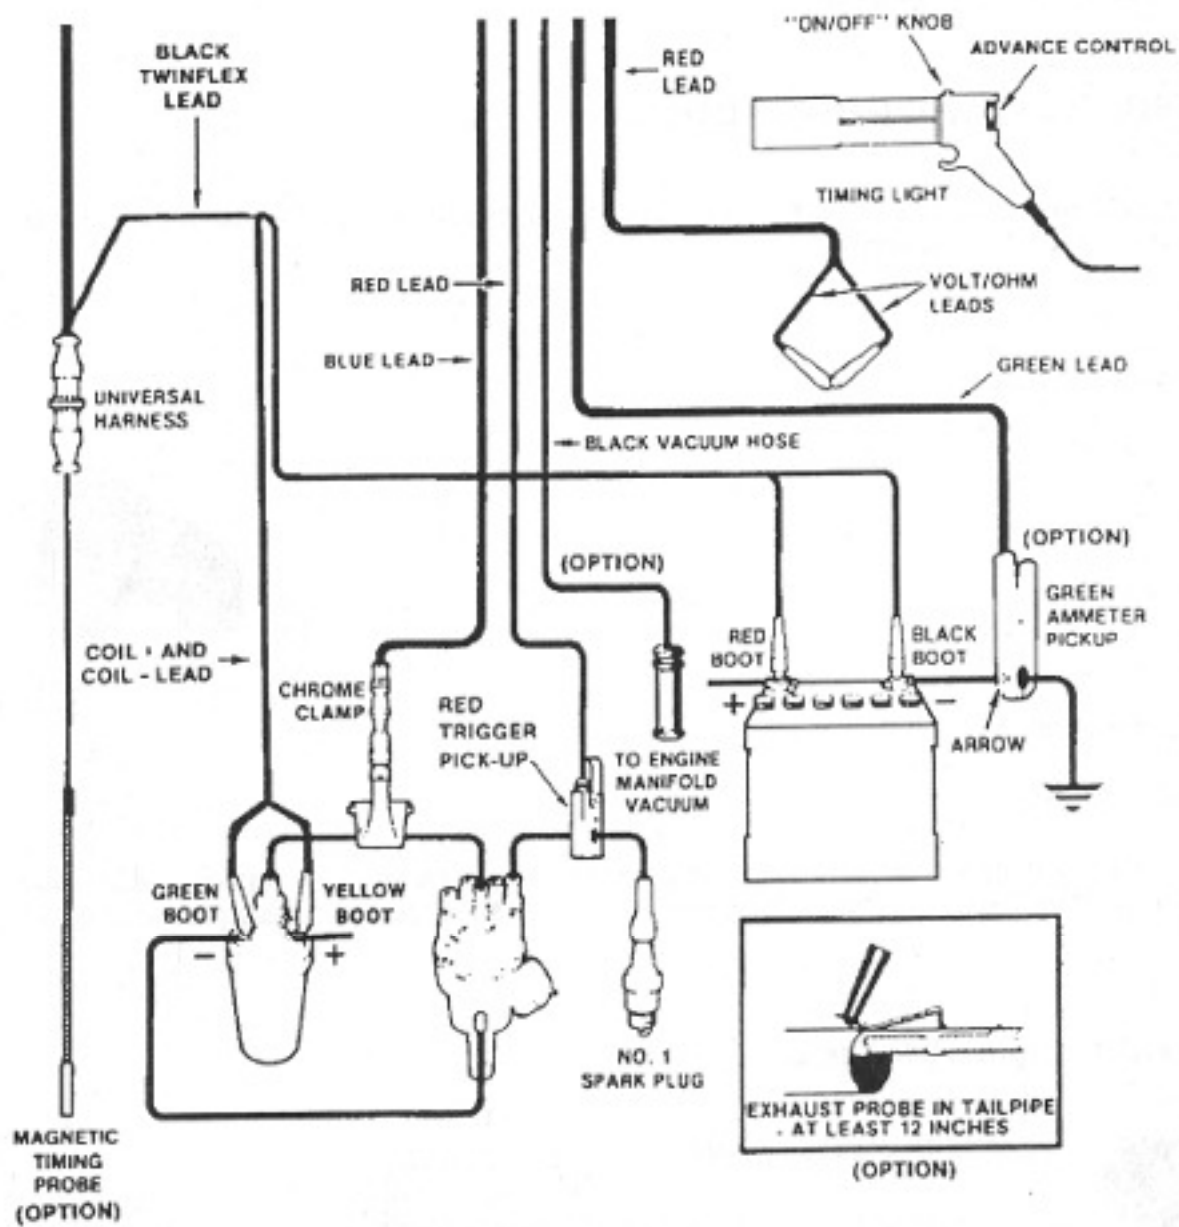

FIGURE 32. Tester Hook-up to Vehicle.
6. Press the **[F]** key. The CALIBRATION page (Figure 30) will be displayed. Short the volt-ohm leads together (reference Figure 32) The message SHORT VOLT/OHM leads will flash on and off on the VDU until this is done. Do not attempt tester calibration while the test leads are attached to a vehicle. Incorrect calibration will result. (Optional items not installed will not be displayed on this page.)
10. Connect the test leads always with the engine off (Figure 32) as follows: